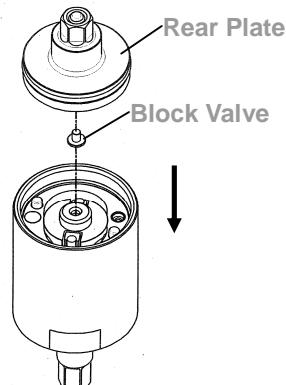

Fig. 141
- ④ Put the block valve into the rear plate taken out at Step 2, and then install the rear plate to the pulse cylinder. Make sure the positions of the pins and the holes are exactly matched. (Fig. 141)
- ⑤ Turn the assembled unit up side down so the rear plate is at the bottom. Then press the pulse cylinder seat all the way down to the fixed position. Make sure the corresponding positions are matched exactly.